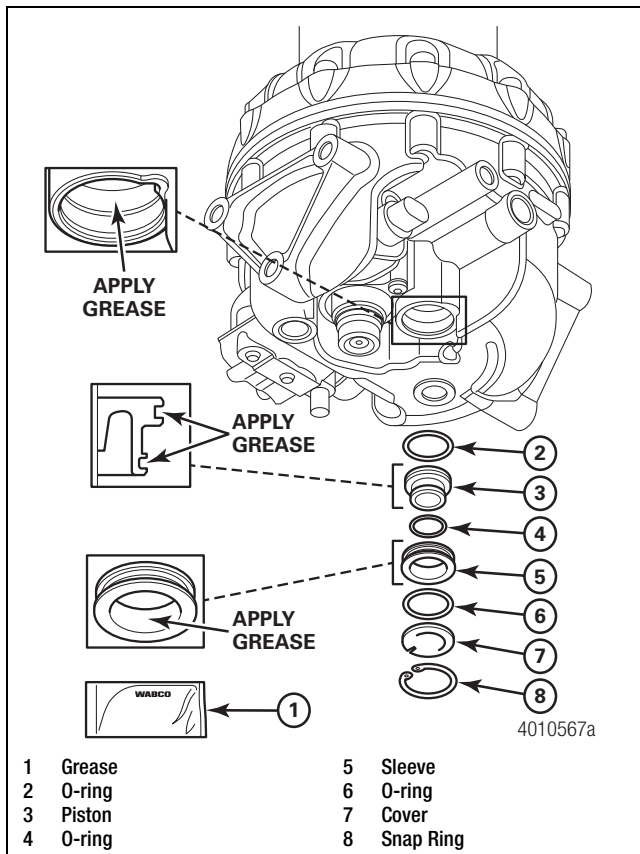

Figure 2
When replacing the TCV, be sure to grease all sliding surfaces, O-ring grooves and O-rings using the grease (1) provided in the kit. Figure 2.